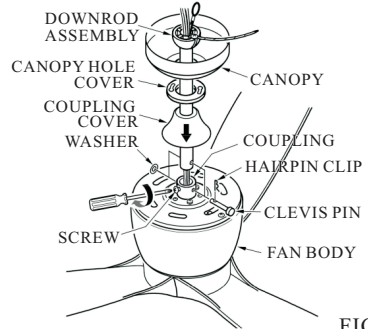

FIG.5
2. Insert the down rod through the center opening in the canopy, canopy hole cover, coupling cover and route the motor lead wires through the hanger ball/ downrod assembly. Align the holes in the downrod with the holes in the motor coupling. The clevis pin must pass through the holes in the motor coupling and the downrod. Place the washer onto the clevis pin and install the hairpin clip making sure to push straight leg of the hairpin clip through the hole near hanger ball to make sure the clevis pin is properly installed(see Fig.5)